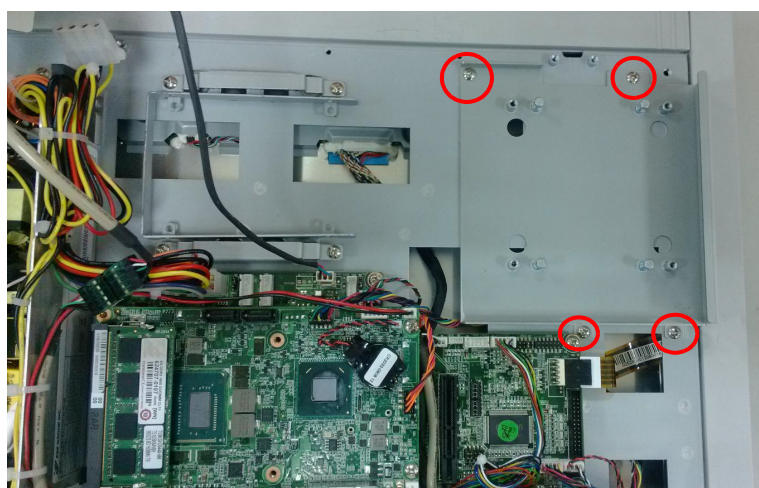

Figure 2.15
1. Remove the four screws as shown in Fig 2.15, and take out the HDD2 bracket.